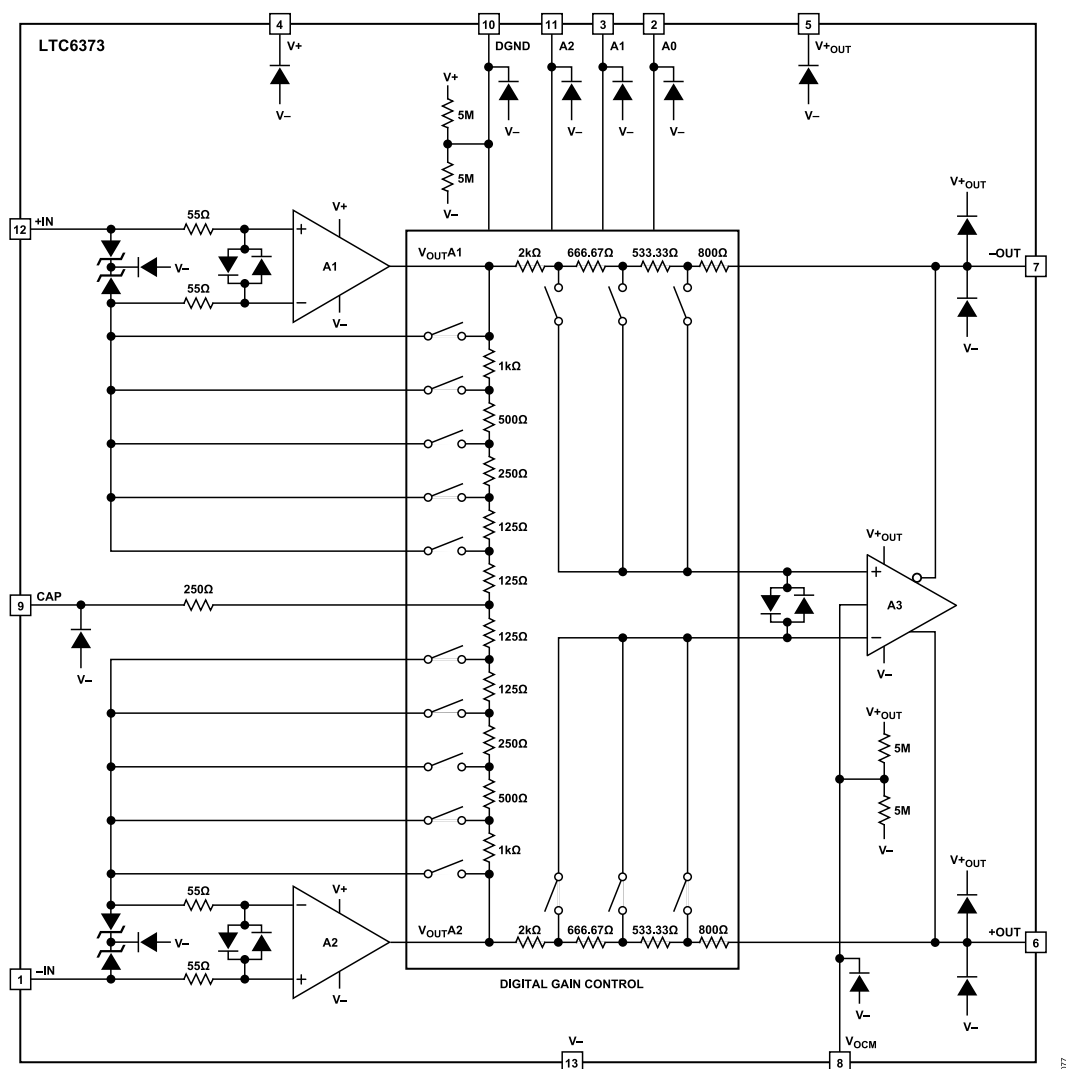
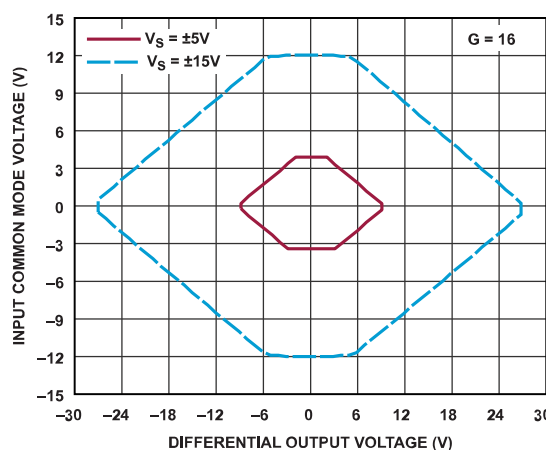
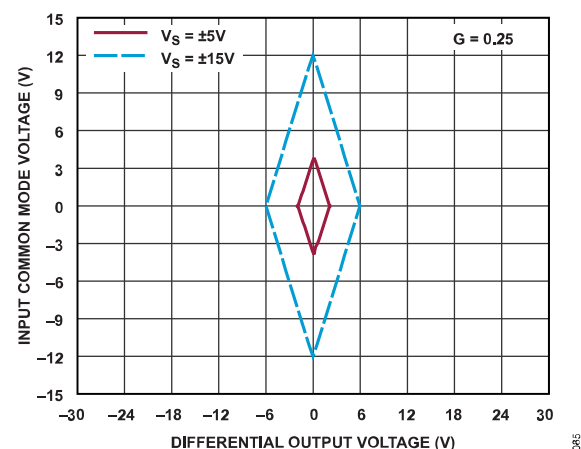

Figure 76. Simplified Block Diagram
Figure 78. Input Common Mode Range vs. Differential Output Voltage at G = 16 with No Load
Figure 84. Input Common Mode Range vs. Differential Output Voltage at $G = 0.25$ with No Load
The LTC6373 is a monolithic instrumentation amplifier based on the classic 3-op-amp topology, as shown in the Block Diagram of Figure 76. A parallel interface allows users to digitally program gains to one of the seven available settings ($G = 0.25, 0.5, 1, 2, 4, 8$, and 16 V/V) while the 8th state puts the part in shutdown mode (which reduces the current drawn from the supplies to $220 \mu\text{A}$). Gain control is achieved by switching resistors in an internal, precision resistor array (as shown in Figure 76). Although the LTC6373 has a voltage feedback topology, the gain-bandwidth product increases at higher gain settings because each gain has its own frequency compensation, resulting in increased bandwidth at higher gains and minimum phase variation across all gains.
Instrumentation amplifiers traditionally specify a valid input common mode range and an output swing range. This however often fails to identify swing limitations associated with internal nodes, as they experience a combination of gained differential signal and common mode signal. Referring to the Simplified Block Diagram of Figure 76, the output swing of amplifiers A1, A2, and A3 as well as the common mode input range of the output differential amplifier A3 impose limitations on the valid operating range. The graphs in Figure 78 to Figure 84 show the maximum input common mode voltage limits where a valid output is produced for each gain setting of LTC6373.
Plots in Figure 78 to Figure 84 show the input common mode voltage (V_{ICM}) range allowed for a given differential output voltage ($V_{OUTDIFF}$), under various combinations of gain (G) and supply (V_S) settings. In each plot, the output stage positive supply pin V_{+OUT} is tied to the main positive supply pin V^+ , $V_{OCM} = 0$ V (mid-rail) and there is no load.
To prevent damage, the LTC6373 has a comprehensive protection scheme, especially on the input pins, as illustrated in the Simplified Block Diagram of Figure 76. The input current applied to the LTC6373's input pins should be kept under ± 10 mA. To achieve additional input protection, external series resistors and/or low leakage clamp diodes should be used.